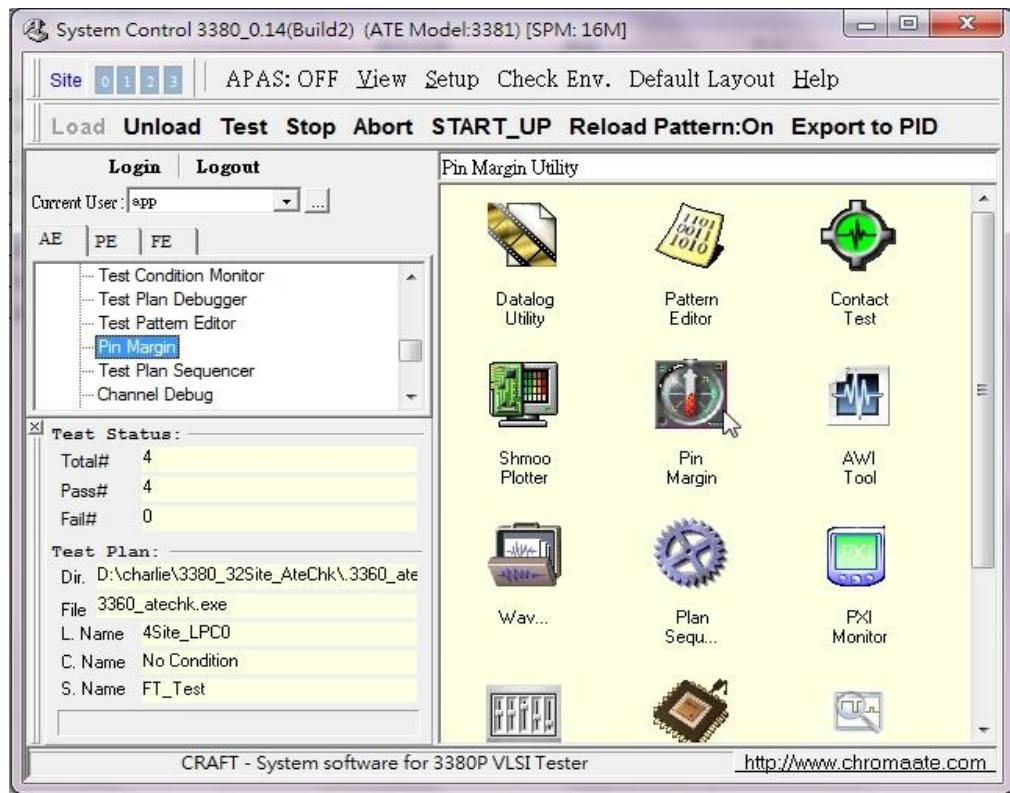
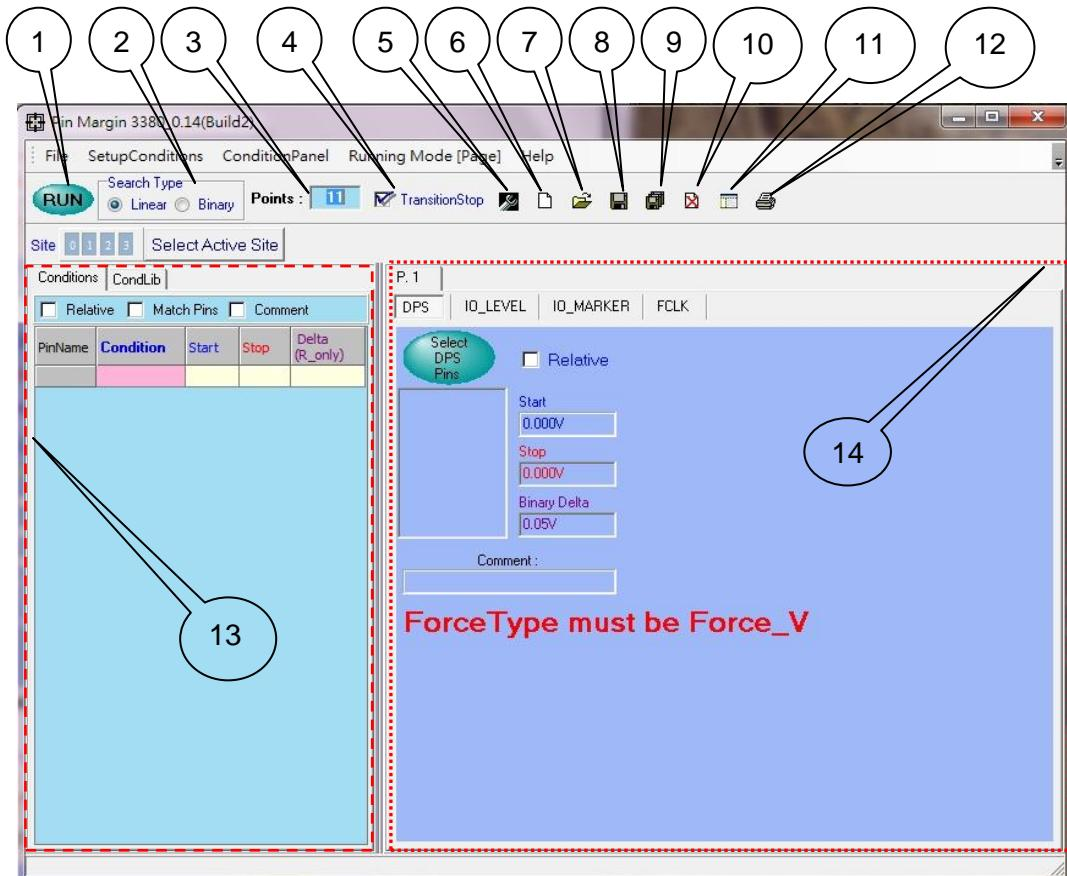

Figure 14-1 CRAFT: System Control Window
Figure 14-2 Initial Window of Pin Margin
Click Pin_Margin icon (Figure 14-1) in system control window. The pin margin window then opens. The pin margin window looks like Figure 14-2.
14.3 Overview of Initial Window (Figure 14-2)
Press it to create a new page. In Figure 14-2, there is only one page (P.1) displayed, if press this button, there will be a new page (P.2) created.
- (7) Open the saved binary pin margin plot file or open the saved test condition library.
- (8) Save the pin margin plot of current page to a binary file.
- (9) Save all pin margin plots of all pages to a binary file.
- (10) Delete current page.
- (11) To hide/display the test condition panel (Figure 14-2(13)).
- (12) Print out pin margin plot of current page.
- (13) Test condition panel:
Press the setup button (Figure 14-2(5)) to change from setup window to pin margin plot window, press again to change from pin margin plot window to setup window.
The condition panel (Figure 14-2 (13)) includes two pages, conditions list and condition library.
- (1) Conditions: Display the conditions list.
- (2) Condition Library: Display the condition library.
- (3) Hide / Show: To hide/display the test condition panel.
- (1) Pin Name: Display the selected pin name on setup window.
- (2) Symbol: All possible symbols are described in Section 14.8 “Symbol List”.
- (3) Relative: Click the checkboxes of columns can enable or disable it. If the column of “Relative” is enabled, “start” and “stop” columns’ color will be changed, and add red marks on the upper right of “start” and “stop” columns.
- (4) Start: Display the “Start Value” on the setup window user can modify it here.
- (5) Stop: Display the “Stop Value” on the setup window user can modify it here.
- (6) Binary Delta: If the search mode is “Binary”, this column will be the “Binary Delta”; user can modify the value here. If the search mode is “Linear”, then this column is read only, because the delta value (resolution) of linear search depends on the “Points” (Figure 14-2 (3)).
- (7) Match Pins: The selected match pins show on this column.
- (8) Comment: Display the comment on setup window, and it’s editable.